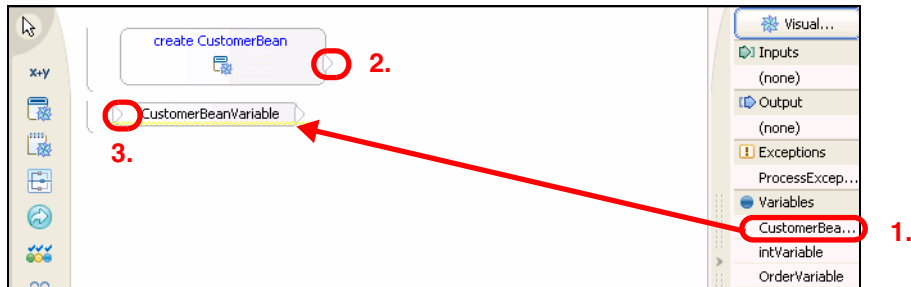

Figure 16-20 Add a CustomerBeanVariable
- ▶ In the right-hand Visual Snippet palette, select the CustomerBeanVariable and drag it onto the canvas (Figure 16-20).